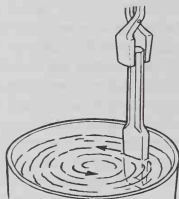

Fig. 8-4. Quenching heated steel. Whirl the metal in a circular motion, with a slight up and down movement at the same time.
2. Quench the metal quickly in the correct cooling solution. Whirl the metal around in the solution so it will cool quickly and evenly, Fig. 8-4. Water is